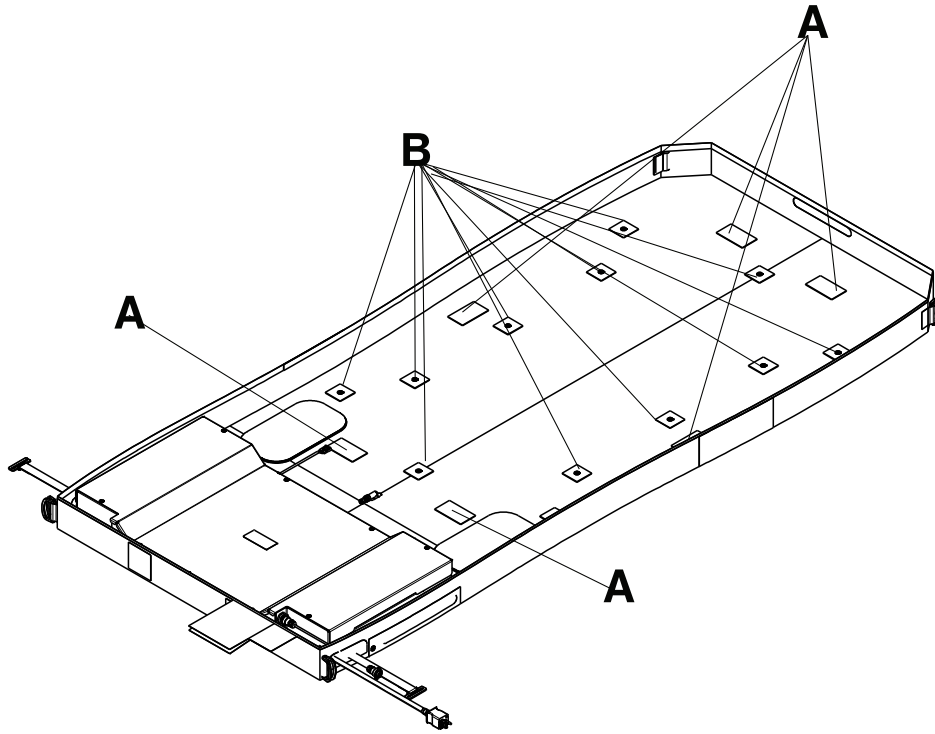

Figure 26 – Pod hook and loop and snap retainers
7. Lift up on the foam crib and reach between the foam crib and the bottom cover to unhook the six hook and loop retainers (A) and unsnap the 12 snap retainers (B) (Figure 26). Repeat for the opposite side.